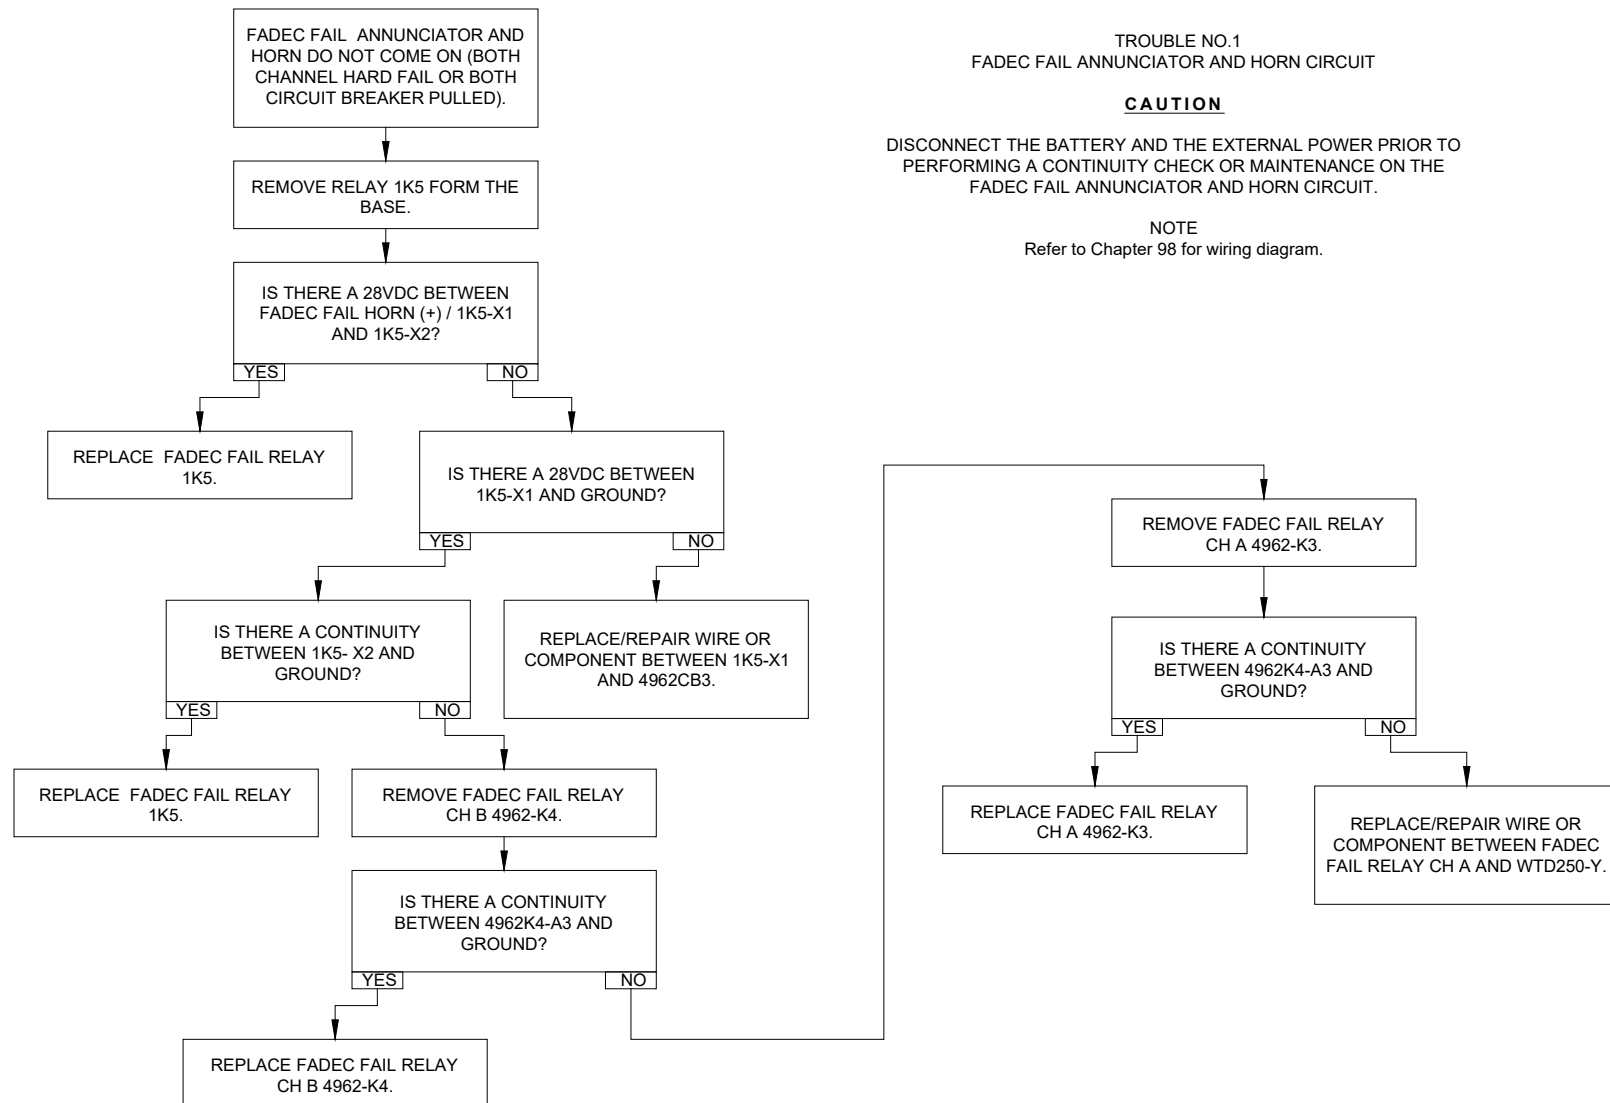

Figure 96-65: FADEC FAIL Annunciator and Horn Circuit – Trouble No. 1
- If the FADEC FAIL annunciator and horn do not come on, refer to Trouble No. 1 (Figure 96-65).